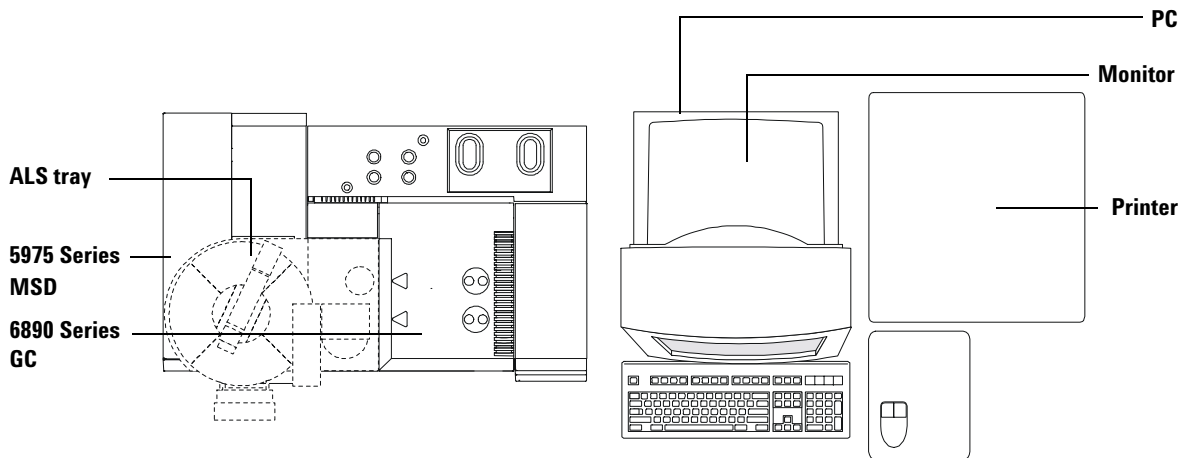

Figure 2 Example GC, MSD, PC setup
- 1 Unpack the GC, MSD, and PC boxes. See Figure 2.